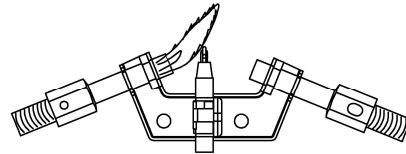

Figure 15 - Correct Pilot Flame Pattern
- Figure 15 shows a correct pilot flame pattern.